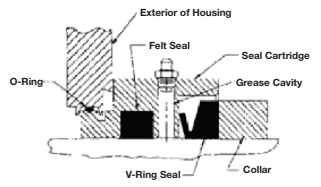

Figure 10
11. Locate collar (above 7" bore) at the side of each seal cartridge (Figure 10). Tighten set screw to 120 in-lbs.